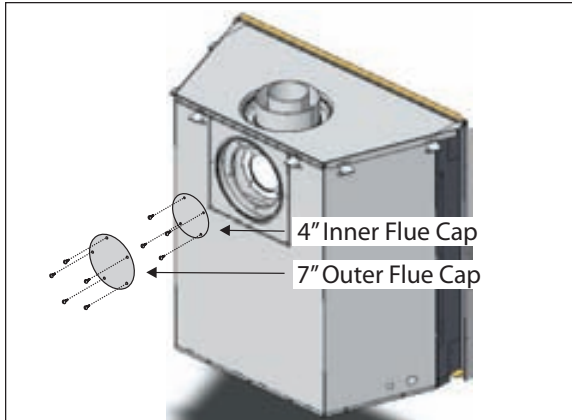

Figure 7a. Flue cap installation for Top Vented fireplace.
1. Install the 4" inner flue cap on the rear flue outlet and secure the cap in place with five screws, as shown in **figure 7a**.